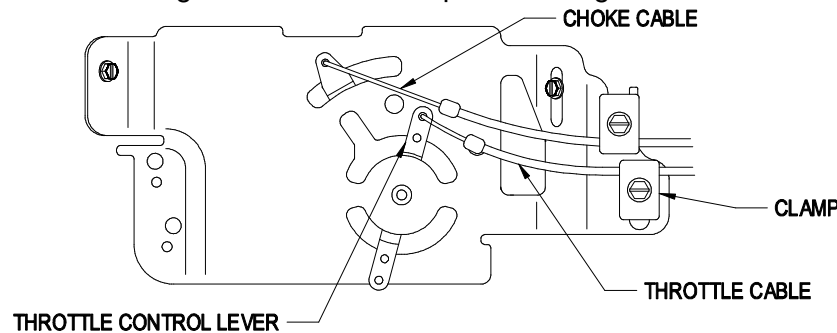

FIGURE 2
- b) Attach inner wire of the throttle cable to the top hole in the throttle control lever as shown in Figure 2.